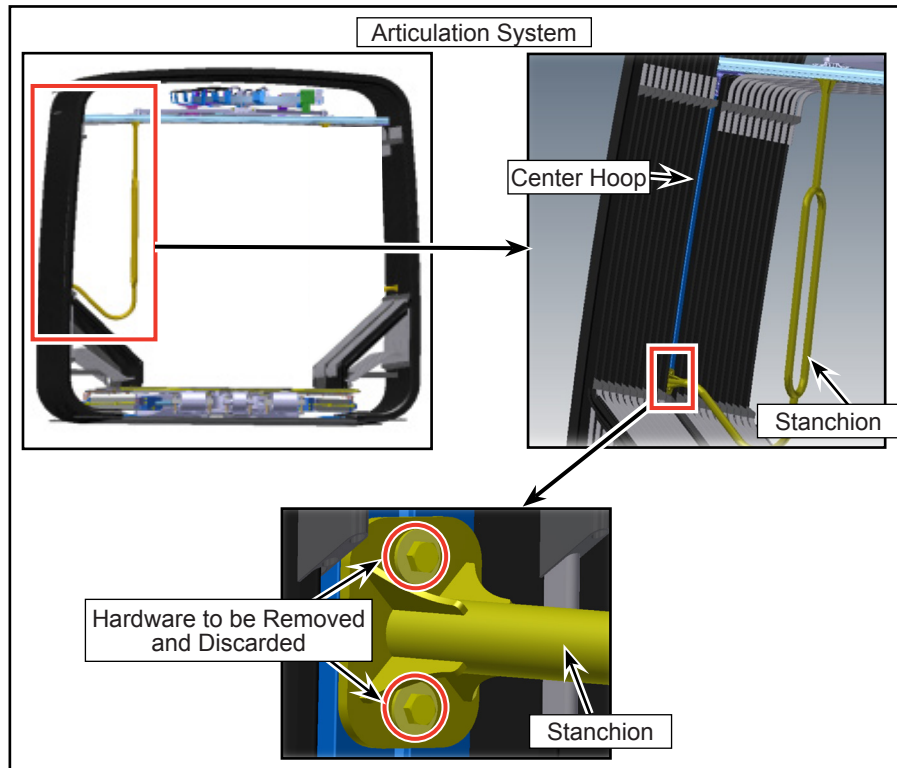

Figure 3 - Removal of Stanchion
- 1.4. Remove the existing stanchion fixed to the center hoop of the articulation. Discard the stanchion, bolts and washers (see Figure 3).